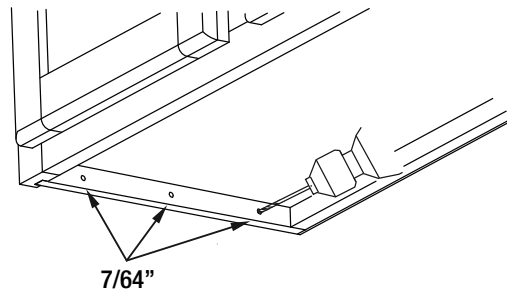

Fig. 18-2
- Set the bracket aside and drill three 7/64" holes in the marked locations as shown in figure 18-2
- Secure the bracket to the side frame using a screwdriver and provided 18mm wood screws (AA). If a given pre-drilled pilot hole has stripped, use the adjacent mounting hole instead.